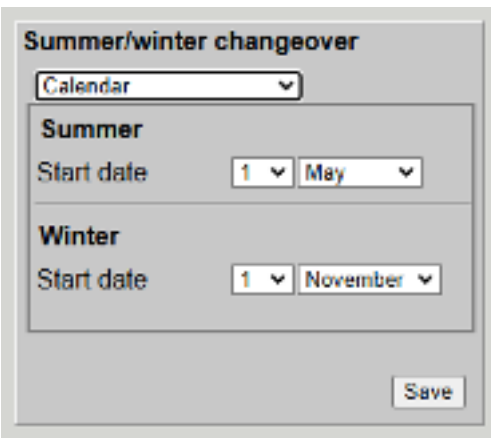

Fig. 33: Calendar
- ▶ If you choose 'Calendar' as the type of control, you also have to set the summer start date and the winter start date ( Fig. 33 ).